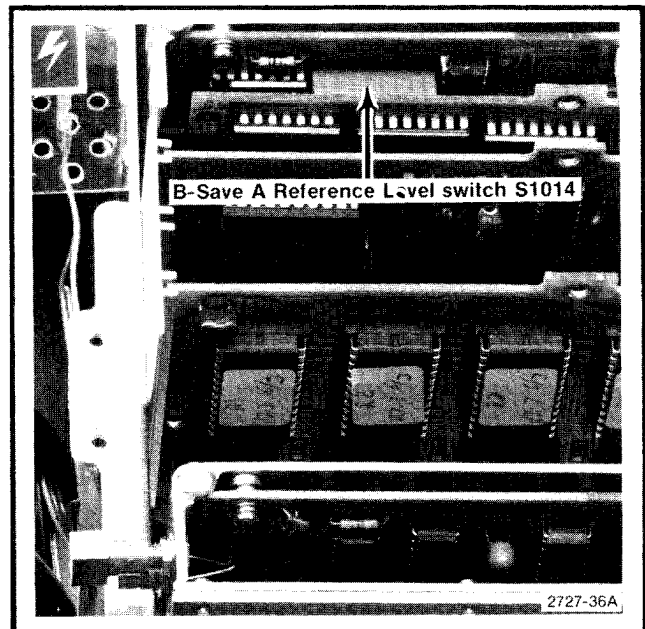

Fig. 3-48. Location of binary switch (S1014) for setting B—SAVE A reference level.
When B—SAVE A is selected, the expression implemented is $(B - \text{SAVE A}) - k$ where k is a constant set by the input data for an 8-to-4 line encoder, U1015. Each bit will move the reference level about 0.2 minor division. Normally, the reference level is set at the center graticule line; however, it can be set anywhere within the graticule area by the setting of an 8-bit binary switch, S1014 (Fig. 3-48). The MSB (switch #8) shifts the display about five divisions, switch #7 half this amount, etc. The following procedure sets the reference level.
b. Switch the POWER on and close or open the switches on S1014 (Fig. 3-48) to obtain the desired B—SAVE A reference level.
z. Peak the 19 GHz signal with Shaper #3, R1061, adjustment (Fig. 3-48).